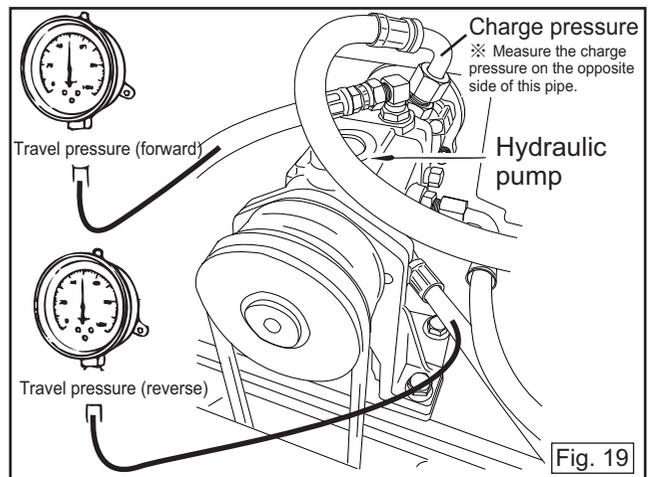

Fig. 19
6. Pressure measurement (Fig. 19)